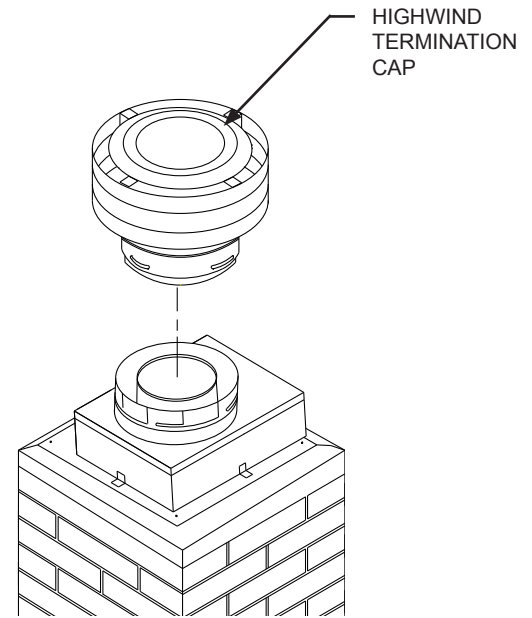

FIG. 7
Step 8. Twist lock the Vertical Termination Cap to the Adaptor (See FIG. 7).